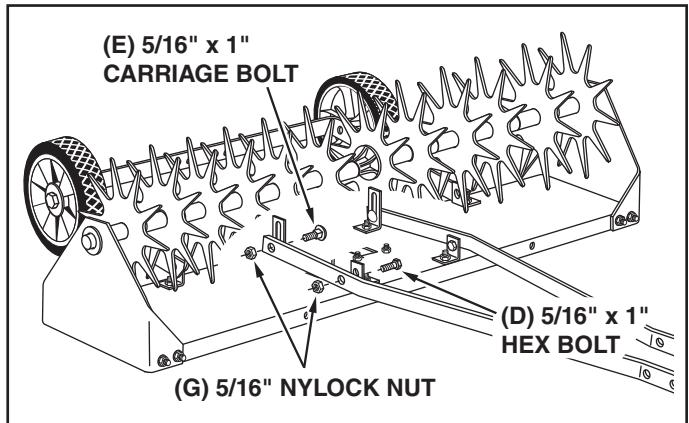

FIGURE 4
5. Assemble the hitch mount arms to the **outside** of the hitch arm mount brackets at the rear of the tray using two 5/16" x 1" carriage bolts (E) and 5/16" nylock nuts (G). **Tighten** and then loosen the nuts 1/2 turn. See figure 4.
6. Fasten the hitch mount arms to the **outside** of the angle brackets at the front of the tray using two 5/16" x 1" hex bolts (D) and 5/16" nylock nuts (G). **Tighten** and then loosen the nuts 1/4 turn. See figure 4.